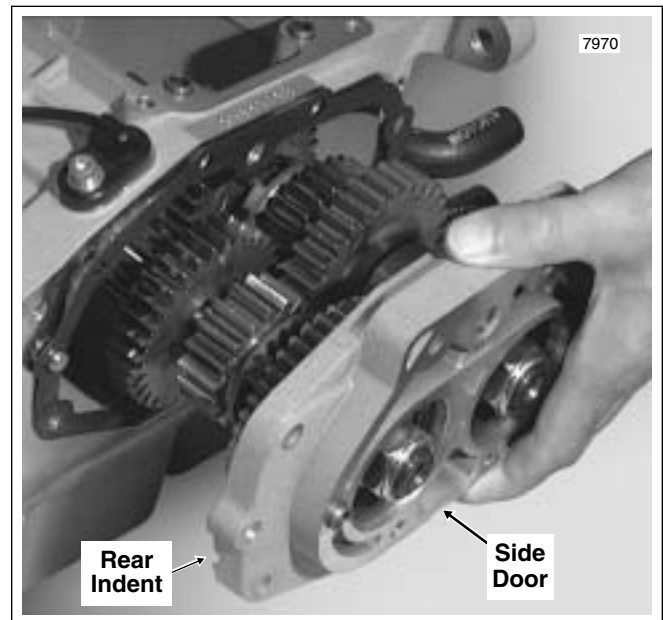

Figure 7-19. Remove Transmission Side Door
9. Remove the six socket head screws (bottom four with flat washers) to free both the side door and transmission exhaust bracket from the transmission case. Pull the side door, mainshaft and countershaft from the transmission case as a single assembly. Remove and discard the door gasket. See Figure 7-19.
DO NOT USE A HAMMER TO REMOVE THE SIDE DOOR. If the side door sticks or binds on the locating dowels, gently pry open using the indents at each side of the door. See Figure 7-19.